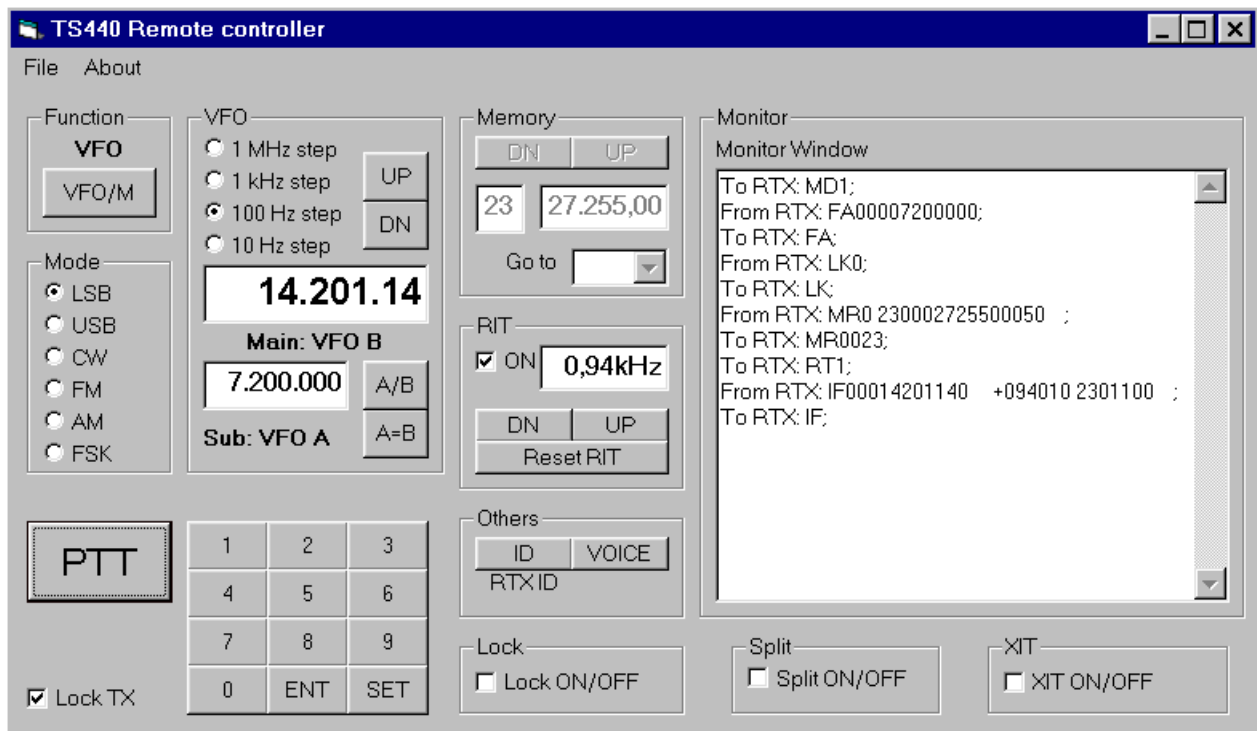
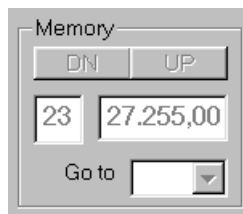

figure 3 - Graphic User Interface
figure 7 - Frame "Memory"
The figure 3 shows the main panel. It is the only window of the program.
In the sample pictures above (figure 3 and figure 7) the TS-440 is set on VFO mode. For this reason the Memory panel is disabled. However the current channel memory (23) and the relevant frequency (27.255,00 khz) are shown. However there is no indication about the channel memory mode.